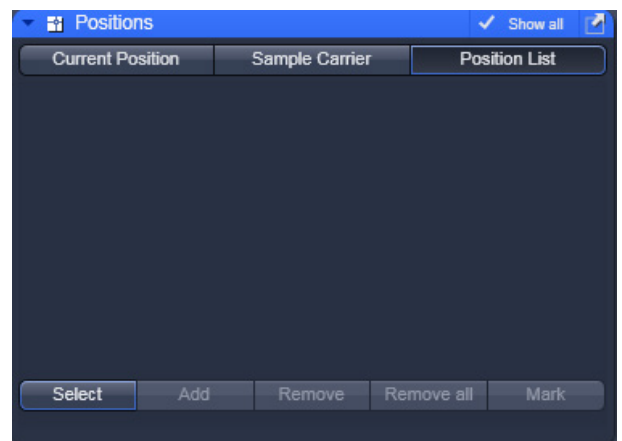

Fig. 323 Position List panel
- Click on the **Positions List** tab to open the **Position List** panel (Fig. 323). Click on any other tab to leave the panel.